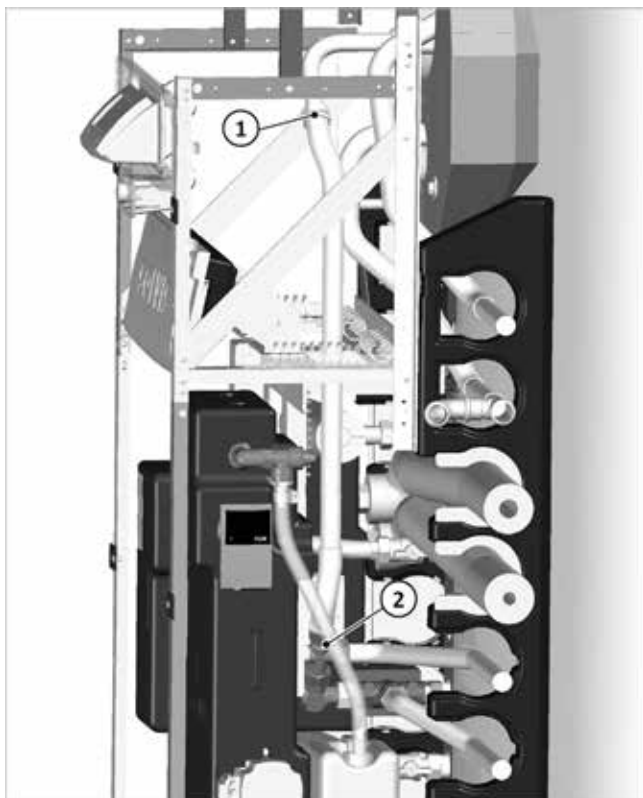

Fig. 9: Connection pipe fitted
- Fit the connection pipe to the top pipe elbow (1), and route and connect it to the switching valve at the bottom (2) (see → Fig. 9).